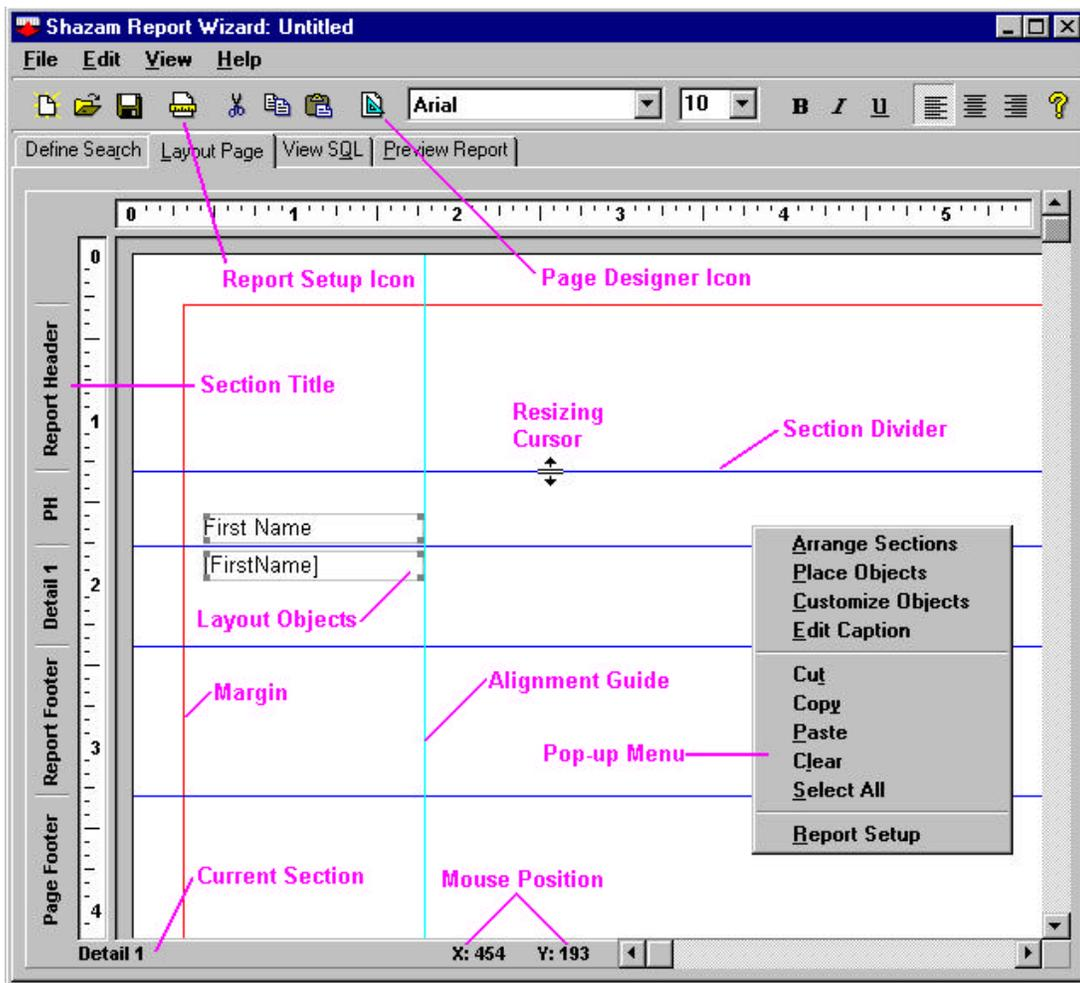

Figure 12.
11. **LAYOUT PAGE.** This tab allows you to customize the layout of the report. For example, you can import pictures and change the font of your lettering as well manipulate the layout of the words. Most importantly, page layout allows the user to calculate totals and subtotals of the information in the report.. The graphic below (see Figure 12.) shows a picture of Layout Page with key elements highlighted.